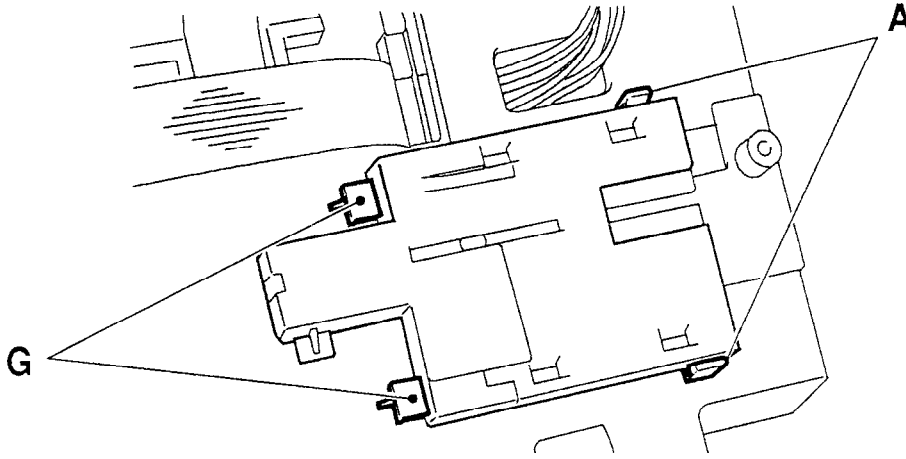

Fig. 7-36
- 2) Flip over the fax machine and release the pad by flexing the two tabs **A**, then extract it rightward (Fig. 7-36):
**Caution** When reassembling, ensure that the pad is properly inserted within its guides **G** (Fig. 7-36).